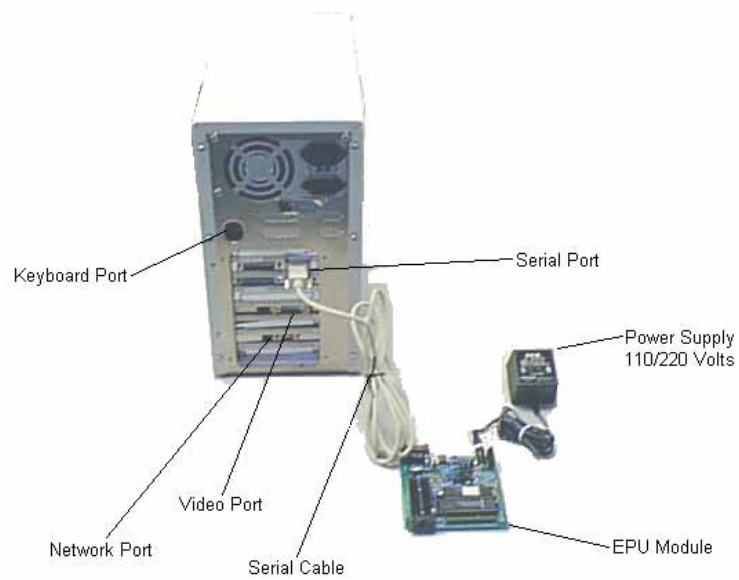

Figure 3.
3. Connect the serial cable to the PC and then connect the other end to the EPU module. This is shown in the Fig 3.